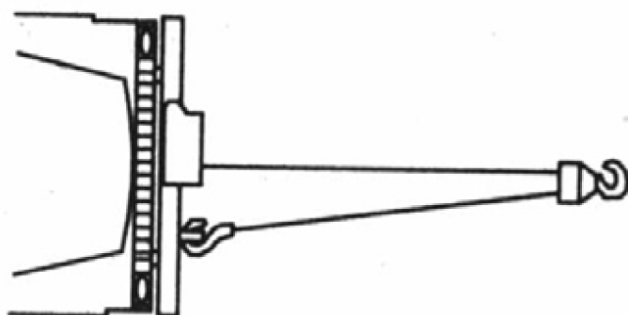

Figure 6
3. Double line with a pulley block (see Fig.6) to reduce the load on the winch, wire rope and battery. Double lining will also reduce winch line speed. Be sure all equipment used meets the winch's maximum line pull rating. When double-lining, pulley blocks should be rated to a minimum of two times the winch's line pull rating.